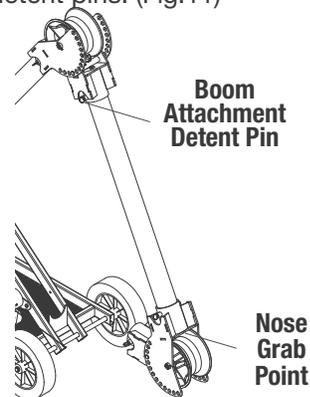

Figure 11: Manipulate Boom Position
5. Grab the nose by the hole at the end of the boom tube, and lift up to relieve the preload on the boom attachment detent pins. (Fig.11)